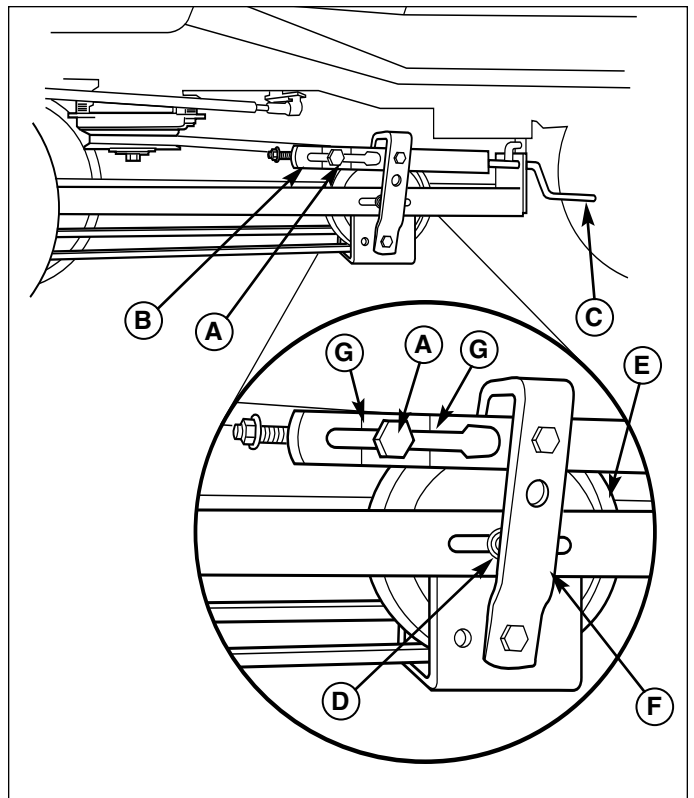

Figure 24. Adjusting Belt Tension
9. With the snowthrower drive belt installed, the trunnion (A, Figure 24) should be between the marks (G) on spring tension bracket (B) for correct belt tension. Turn belt tension handle (C) to move trunnion forward or rearward until between marks.